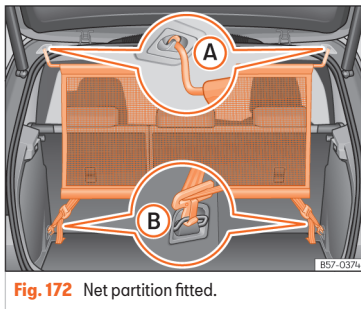

Fig. 172 Net partition fitted.
- Hook the net partition to the left-hand side roof housing »» Fig. 172 A. Be sure to pull the cross rod down past the upper position.
- Hook in the net partition on the rear right-hand side roof housing by pressing on the bar »» Fig. 172 A.
- Secure two hooks of the partition net to the fastening rings of the boot »» Fig. 172 B and tighten the straps firmly.